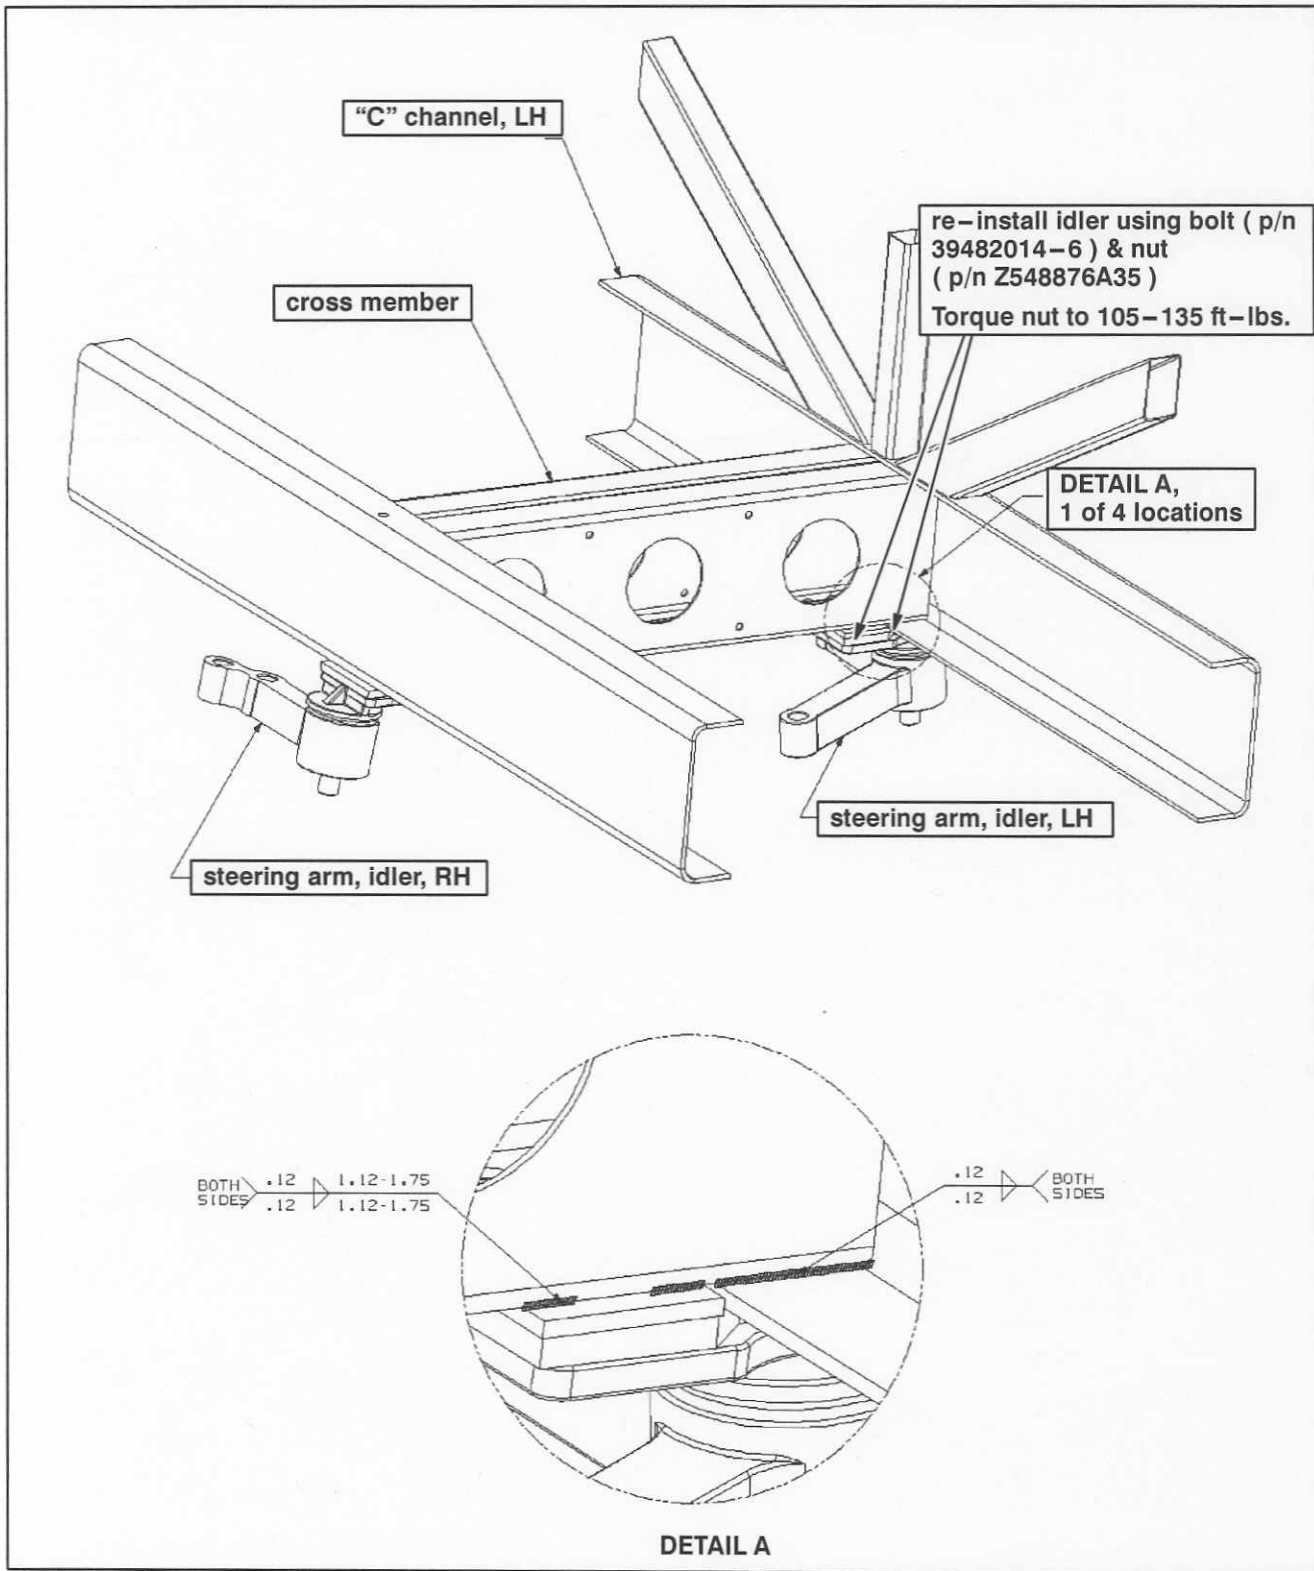

Figure 2. Top view of front bogie. Inspection required of four locations.
2. Locate the steering arm idler brackets on the curbside and roadside of the front axle ( refer to Figure 2 ).
6. Inspect the four weld areas shown in Figure 2 / Detail A and the two weld areas shown in Figure 3 / Detail B.
7. If a crack is present, at the location shown in Figures 2 and 3: